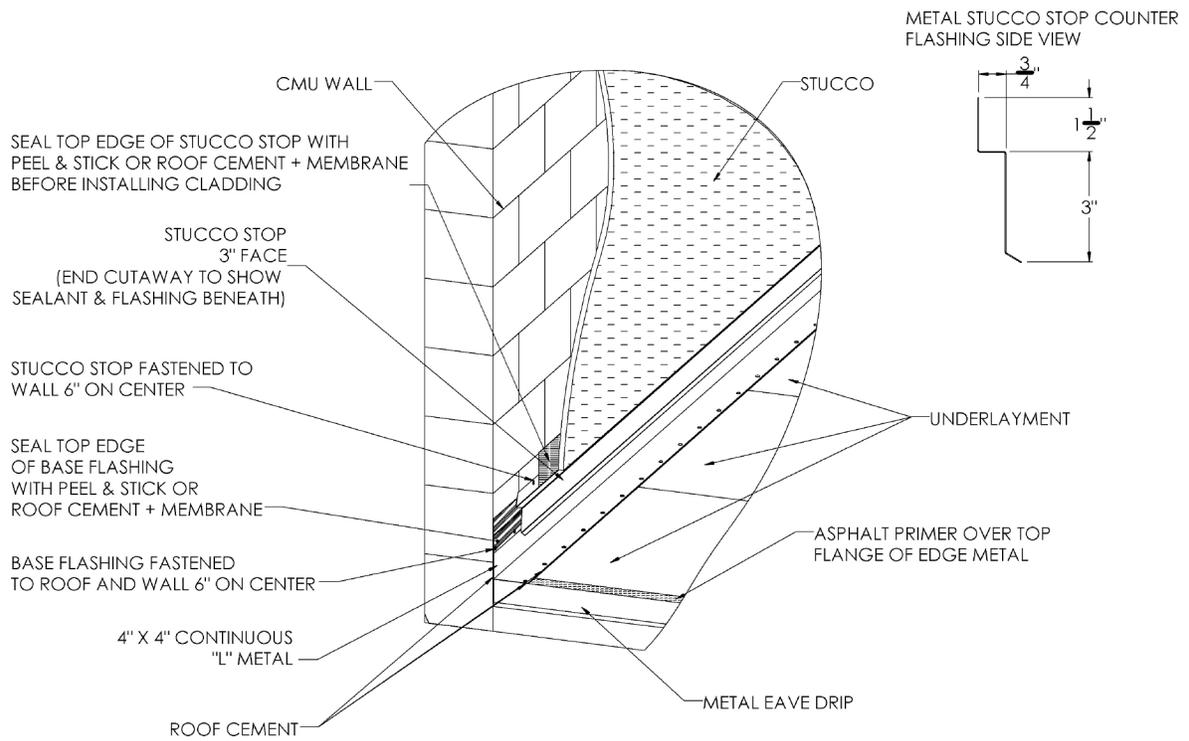

Figure 4A
- Set **metal counter-flashing (stucco stop)** in an approved sealant and install directly to a structural vertical surface. Attach the top flange with approved fasteners within 1 in. of the edge, spaced out a maximum of 6 in. on center. Seal the top flange and fasteners with an approved flashing cement and membrane, ASTM D1970 peel-and-stick membrane, or other approved sealant prior to reinstalling any stucco or cladding material. **(See Figures 4A and 4B.)**